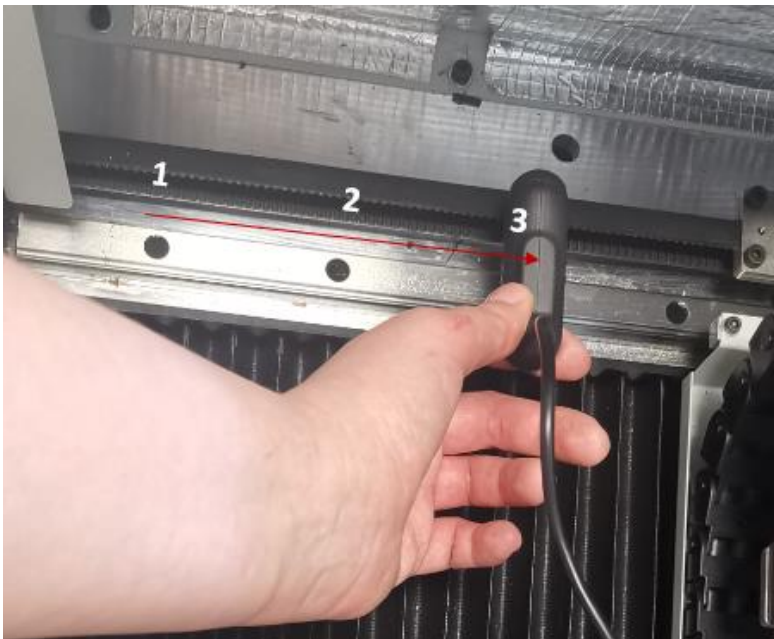

Fig. 39 Measurement location of the timing belt tension on the X1 axis
3. Measuring the timing belt tension on the X1 axis (Fig. 39):
- Place the microphone facing the toothed belt side at the third black mounting hole of the linear guide counting from the right side of the printer (Fig. 39).